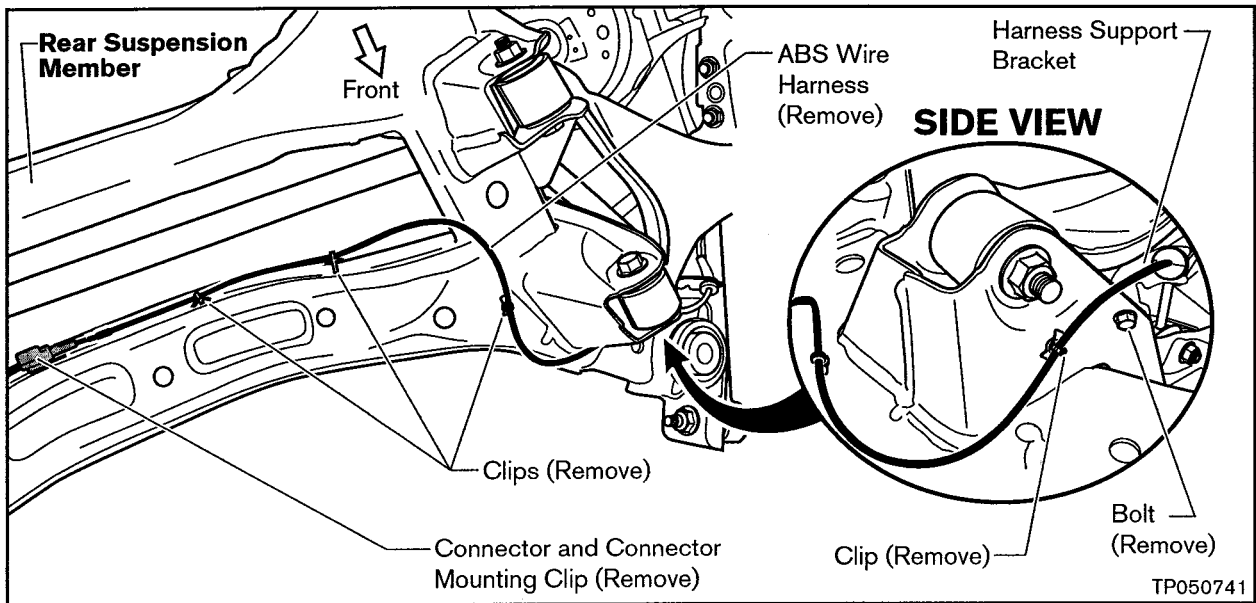

Figure B2
- a. Remove the harness securing clips and connectors/mounting clips from the suspension member (see Figure B2).
- b. Remove the bolt that secures the harness support bracket (see Figure B2).